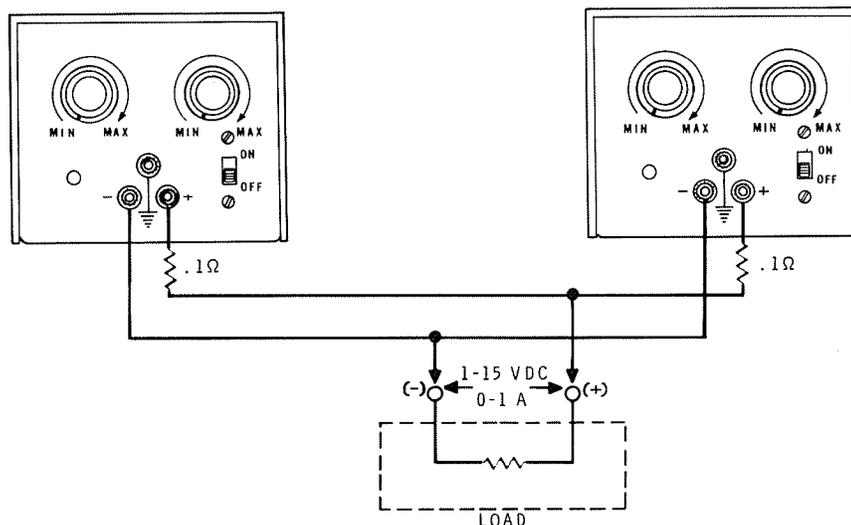

Figure 7
For higher current loads, two or more Power Supplies can be connected in parallel, as shown in Figure 7. Use the following steps for parallel connections.
5. Connect the load as shown in Figure 7.